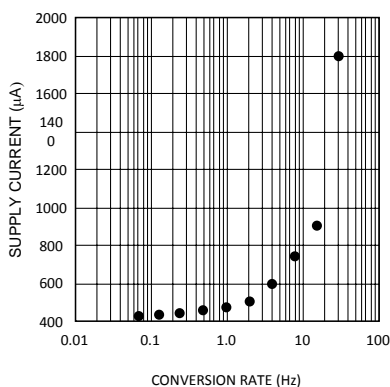

Figure 4. Conversion Rate Effect on Power Supply Current
The LM99 takes approximately 31.25 ms to convert the Local Temperature (LT), Remote Temperature (RT), and to update all of its registers. Only during the conversion process the busy bit (D7) in the Status register (02h) is high. These conversions are addressed in a round-robin sequence. The conversion rate may be modified by the Conversion Rate Register (04h). When the conversion rate is modified a delay is inserted between conversions; however, the actual conversion time remains at 31.25 ms. Different conversion rates will cause the LM99 to draw different amounts of supply current as shown in Figure 4.